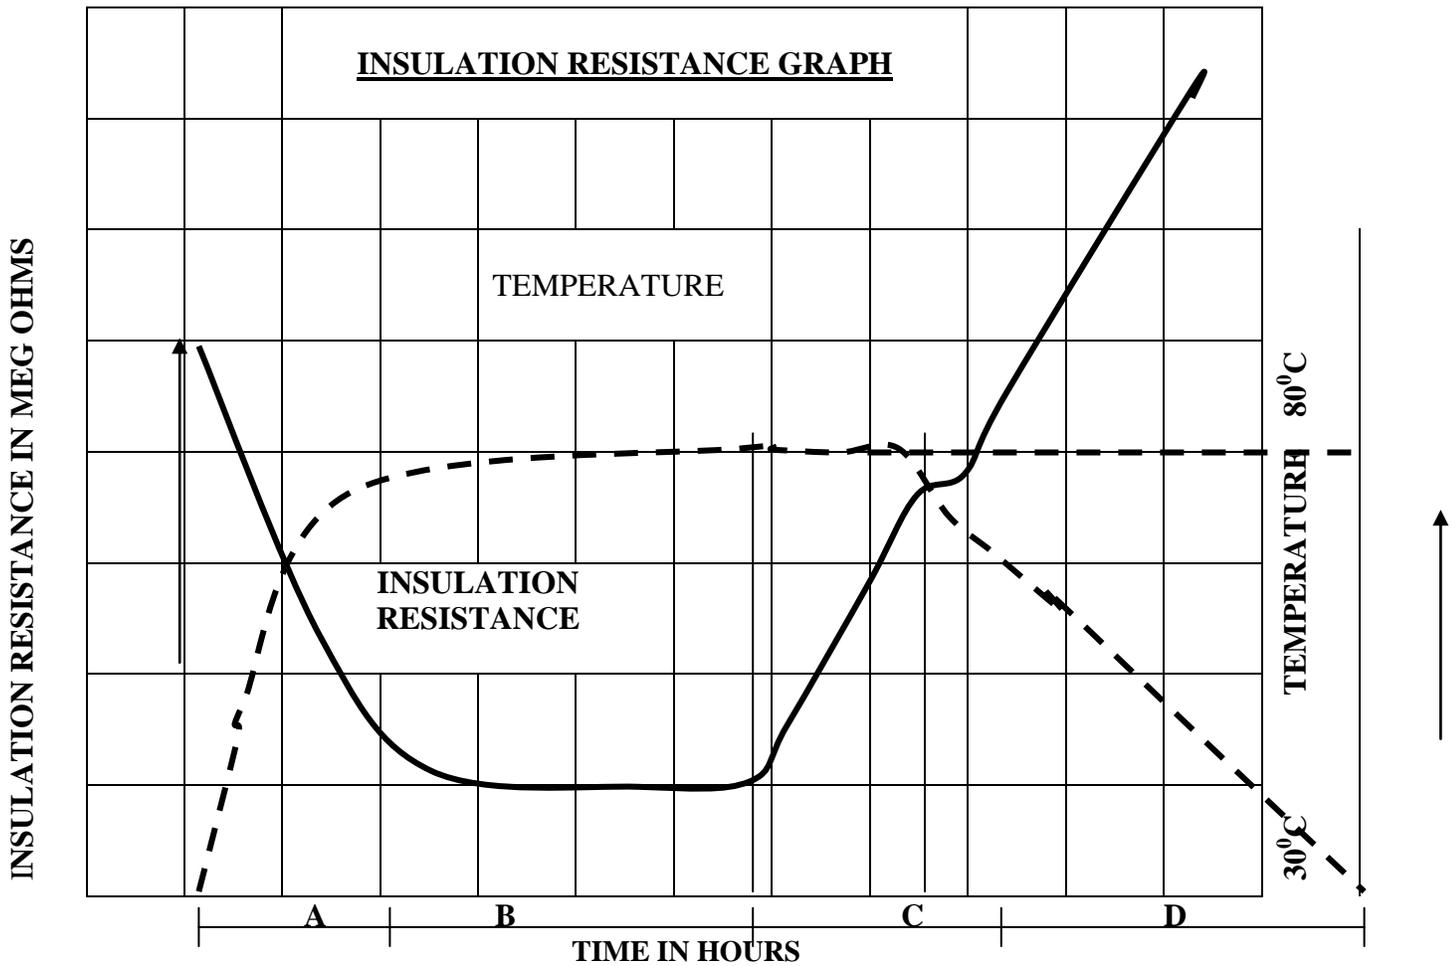

FIG. 2.01(PARA 20210)
*Readings of temperature and insulation resistance should be recorded every two hours, from commencement until the full operation is completed. If the readings are plotted on a graph, the appearance will be as shown in **Fig. 2.01** of ACTM.*